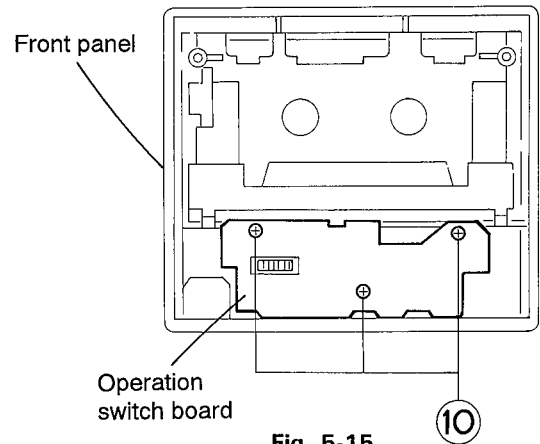

Fig. 5-15
7. By removing the three screws (10) retaining the operation switch P.C. board, dismount the operation switch P.C. board from the front panel (See Fig. 5-15).